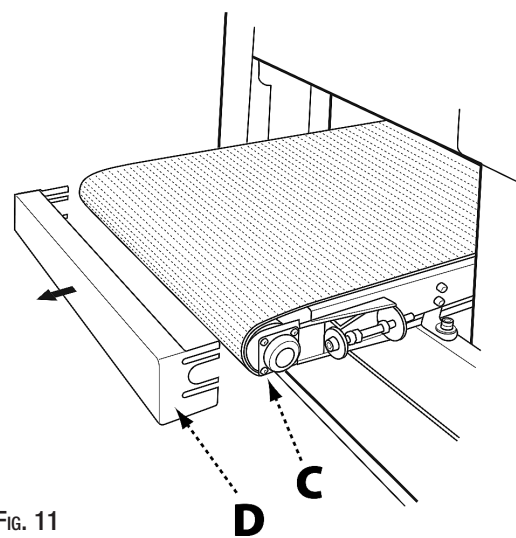

Fig. 11
3. Loosen but do not remove the eight Phillips head screws (C) holding the bearings to either side of the front of the feed table. See Fig. 11.
4. Remove the front guard (D) by sliding it forward.